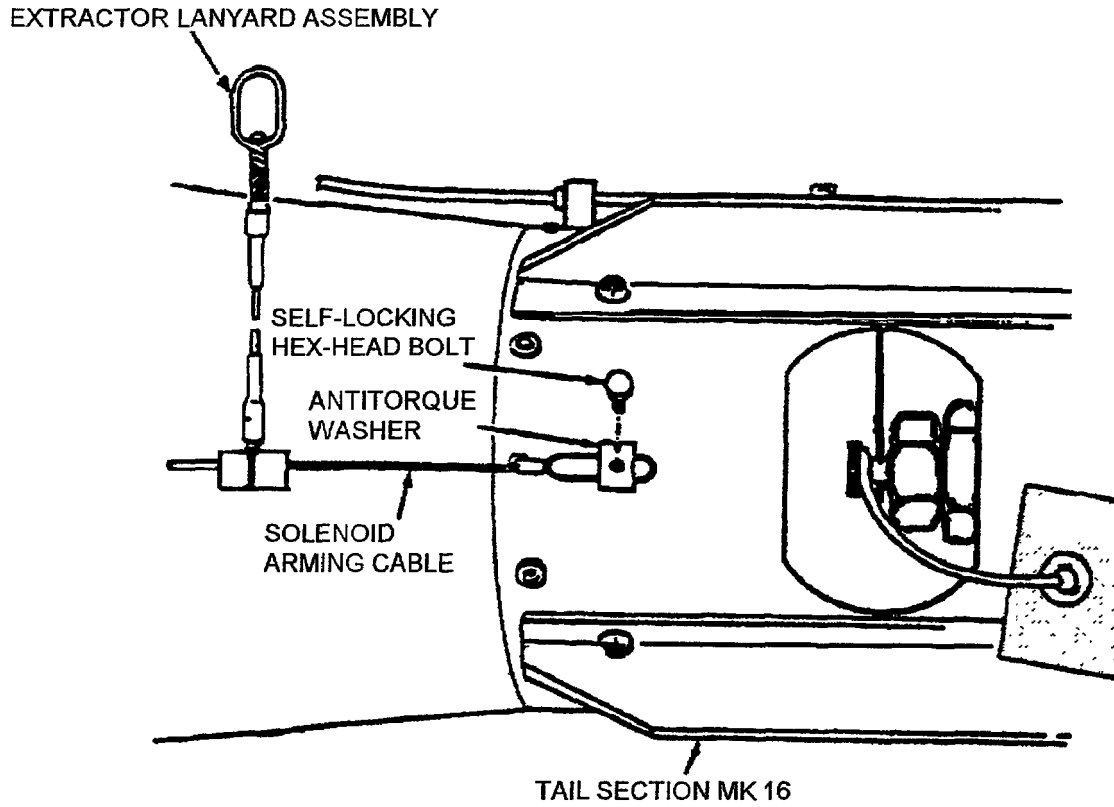

Figure 4-15H. Solenoid Arming Cable to Tail Section Mk 16 Installation
- i. Using PPE per MSDS, apply a light coat of antiseize compound to the threads on the hex-head bolt that will fasten the antitorque washer to the tail and install as shown in Figure 4-15H. Ensure elongated loop is in track of antitorque washer.